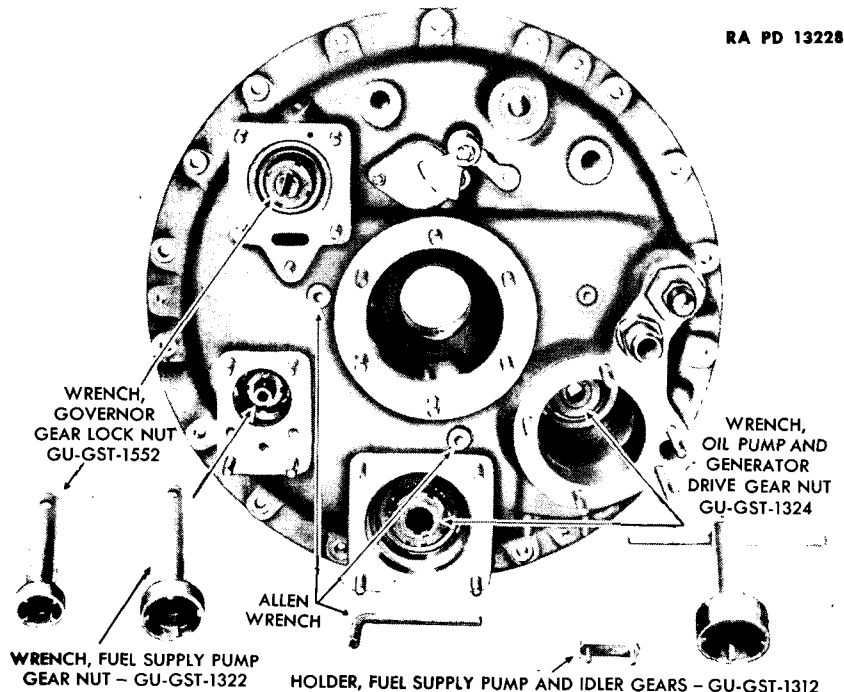

Figure 65—The Accessory Case and Special Tools for Dismantling It
83. DISASSEMBLY OF ACCESSORY CASE ASSEMBLY (figs. 65, 66 and 67).